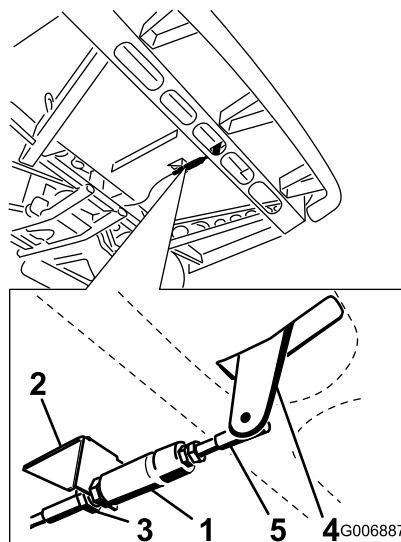
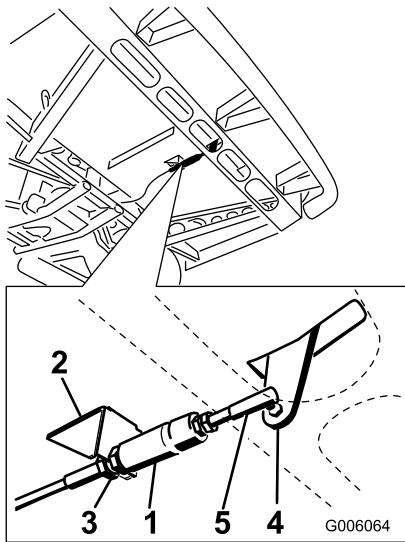

Figure 12
Figure 13
8. Mount the accelerator cable ball joint to the accelerator pedal with 1/4 inch lock nut (Figure 12 or Figure 13).
Note: On models with serial numbers 240000001 thru 259999999, the accelerator cable is mounted to the left side of the accelerator pedal (Figure 12). On models with serial numbers 260000001 and up, the accelerator cable is mounted to the right side of the accelerator pedal (Figure 13).
9. Snap the accelerator cable end onto the ball joint stud (Figure 12 or Figure 13).
10. Position the accelerator cable onto the floor bracket below the floor (Figure 12 or Figure 13).